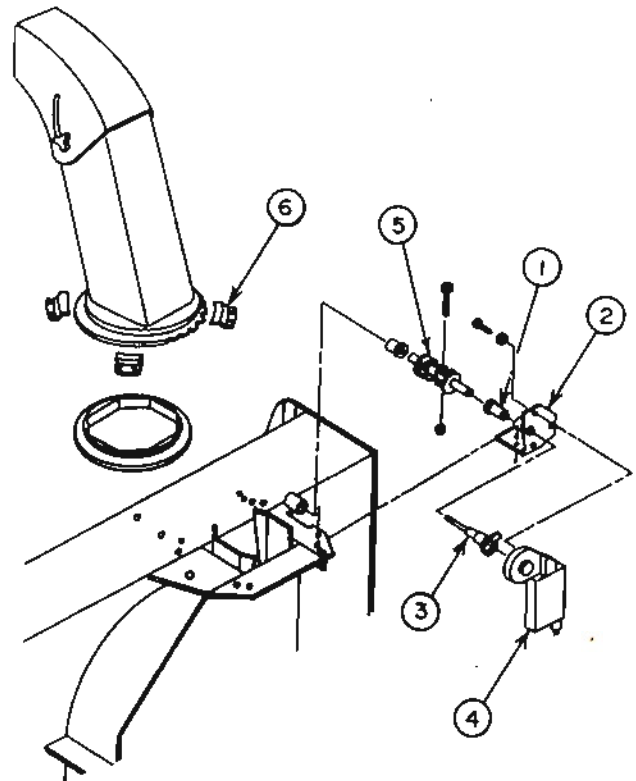

FIGURE 17
- b) Insert 1 11/16" plastic bushing (fig.17, item 1) in rotation bracket (fig.17, item 2). Use the rotation bracket (fig 17, item 2) without the notch in it. This allows the motor to be positioned downward.
- c) Install the adaptor (fig.17, item 3) on the motor shaft and attach motor (fig.17, item 4) to rotation bracket using three 1/4" x 3/4" bolts, flatwashers and lockwashers. Tighten securely.
- d) Insert longest tube end of rotation worm (fig.17, item 5) over adaptor and into plastic bushing in rotation bracket. Align holes and secure with a 10-24 x 1" capscrew and a nylon lock nut. Tighten securely.
- e) Install the chute over the plastic insert and place the four retaining plates (fig.17, item 6). Secure using eight 1/4" x 3/4" bolts, lockwashers and nuts, attaching rotation bracket assembly on the underside of chute base lip. Torque to 9-11 lbs.ft.